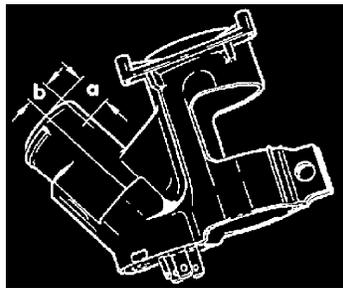

Fig. 5 Lock cylinder, removing and installing
- Removing/installing, **Fig. 5**